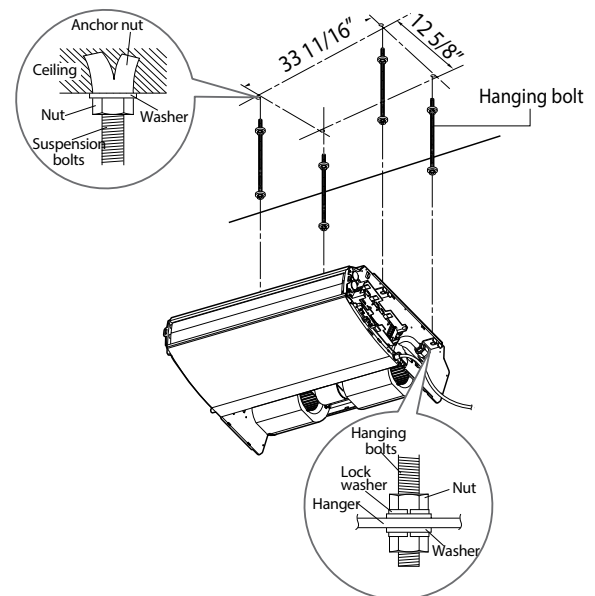

Figure 11: Ceiling Suspended Unit Mounting
2. Refer to Figure 11. Measure and mark the positions of the hanging bolts and the piping hole.